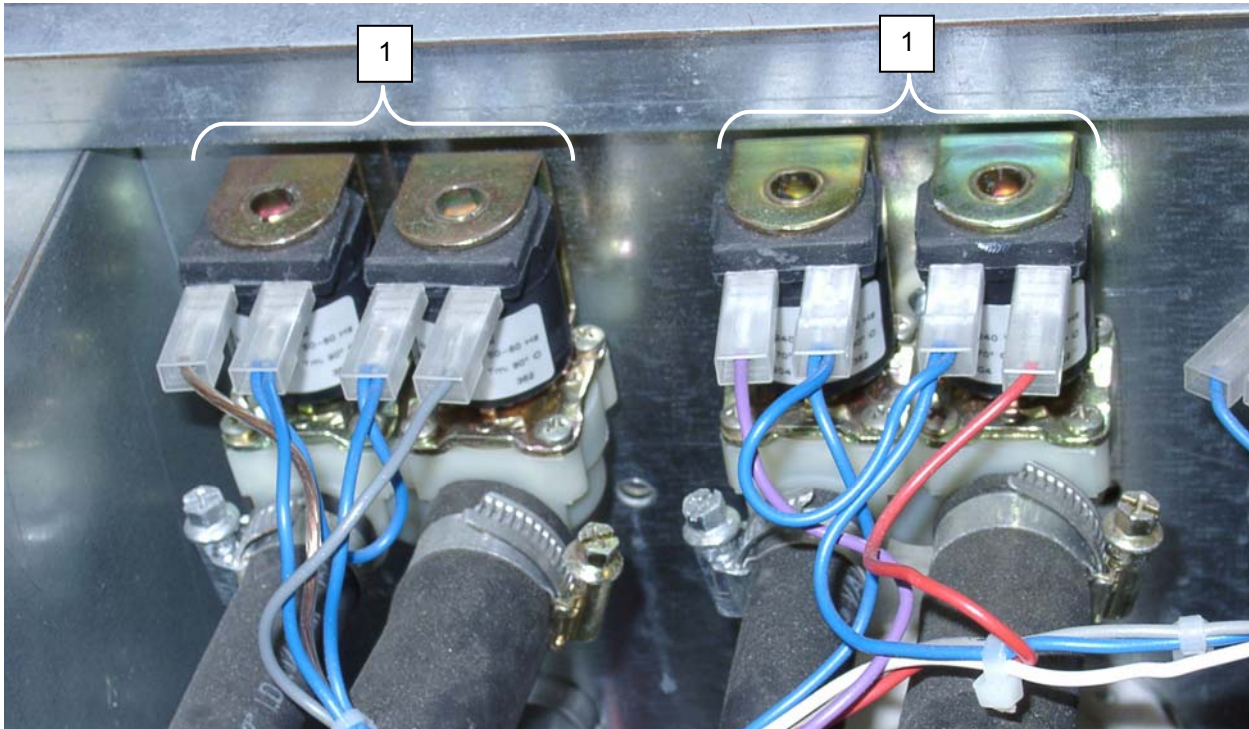

Figure 5. Replace the Washer Water Inlet Valve (2-Way Valve).
2. Tag and disconnect wiring and internal hoses from valve (**Figure 5, Item 1**).
6. Note the alignment of the fittings (**Figure 6, Item 3**), and unscrew fittings from the valves (**Figure 5, Item 1**).
7. Remove screws, washers, and nuts retaining valve (**Figure 5, Item 1**) and remove valve.
8. Install replacement valve (**Figure 5, Item 1**), and retain with screws, washers, and nuts.
13. Connect wiring and internal hoses to valve (**Figure 5, Item 1**) as tagged